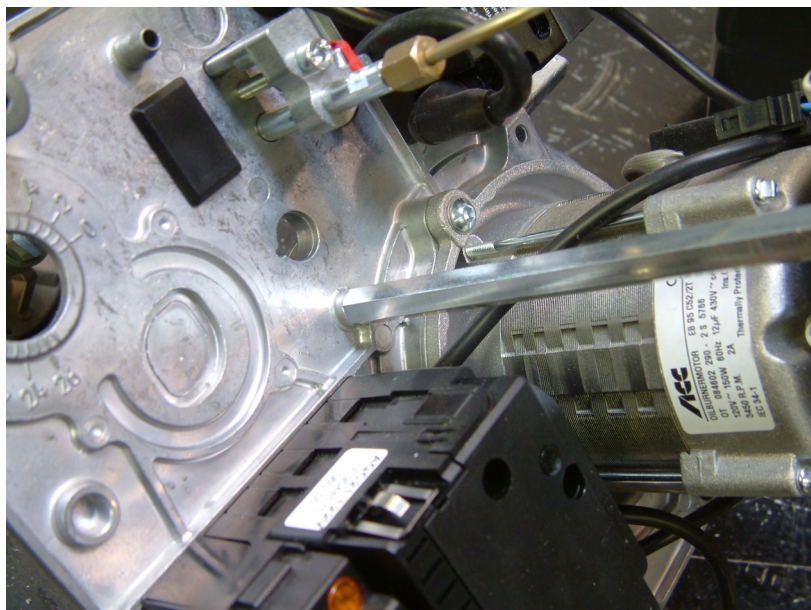

Fig. 11
21. Install extension bolt (Part No. 7820 960) and tighten it, Fig. 11 and 12.
22. Route oil hoses and power cable into strain relief, Fig. 11 and 12.